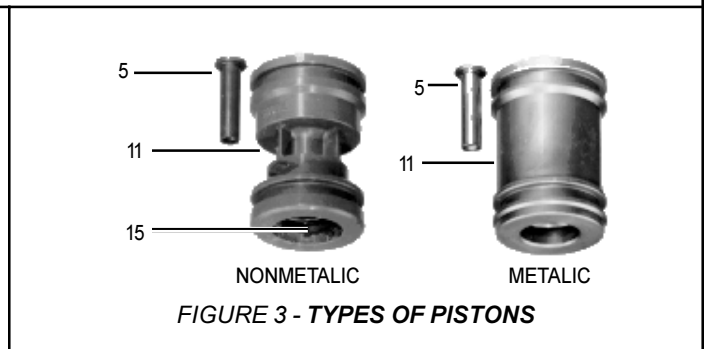

FIGURE 3 - TYPES OF PISTONS
6. Gently tap the open end of the valve body on a flat surface to remove the exhaust stem (5), the exhaust stem spring (6), and piston assembly (11). Items 5 and 11 may be made of metal or nonmetallic material.
7. Remove and discard the two o-rings (8) on the piston O.D. and with a hooked wire remove and discard the o-ring (12) from the piston I.D. On nonmetallic piston, washer (13) and retaining ring (14) may be removed to facilitate removal of o-ring (12).
8. If piston assembly is nonmetallic (Figure 3), use a small screwdriver and carefully insert blade of screwdriver between two of the ears of the retainer ring in the bottom of the piston (11) and pry retainer ring (15) out of the piston and discard. Remove inlet/exhaust valve spring (9) and the inlet/exhaust valve (10) and discard. If piston assembly is metallic, disengage inlet/exhaust valve spring (9) from recess in bottom of piston (11), remove inlet/exhaust valve spring (9), and the inlet exhaust valve (10) and discard.
9. Remove and discard filters (7) from unloader and reservoir ports in governor body.